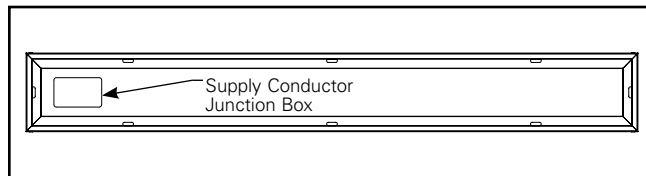

Figure 4.
**Note:** It is recommended to mount the box such that the supply conductor junction box is located at one end of the box. This will ensure there is enough free space inside the box for excess flexible metal conduit. (Figure 4.)